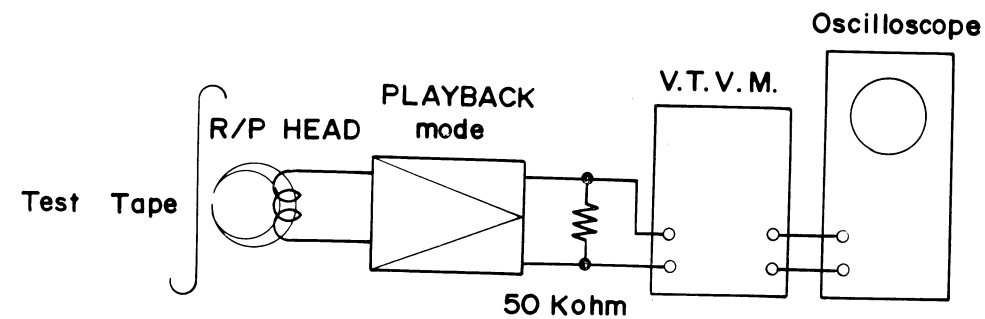

Fig. 25
- (1) Set the tape speed at 19cm/sec and the tape selector switch at NORMAL.
- (2) Adjust the volume control at maximum.
- (3) Measure the voltages at both ends of the 8 ohm, 5% resistor connected to the headphone terminal in no-signal stereo recording mode and confirm that it is below 5mV and that the level meter's pointer doesn't reflect.
- (4) Connect the 50K ohm, 5% dummy load resistor across the OUTPUT terminal.
7. MEASUREMENT OF PLAYBACK SENSITIVITY VOLTAGE (TEST TAPE) (Refer to Fig. 25)